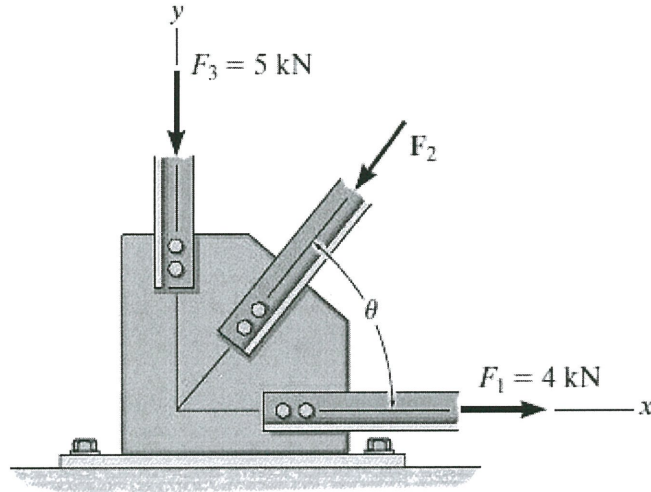

FIGURE Q1
- Q1** The plate in **Figure Q1** is subjected to three forces F_1 , F_2 , and F_3 .